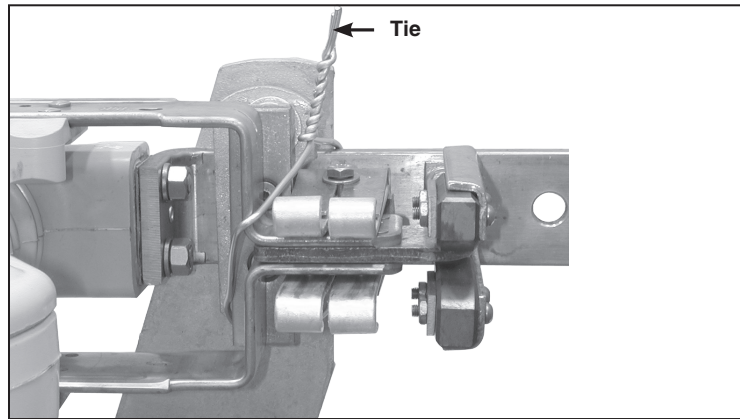

Figure 6. Tie the switch blade to the main contacts.
STEP 4. To minimize time-consuming final adjustments, make sure the switch is fully closed. Tie the switch blades to their stationary main contact assemblies. See Figure 6.